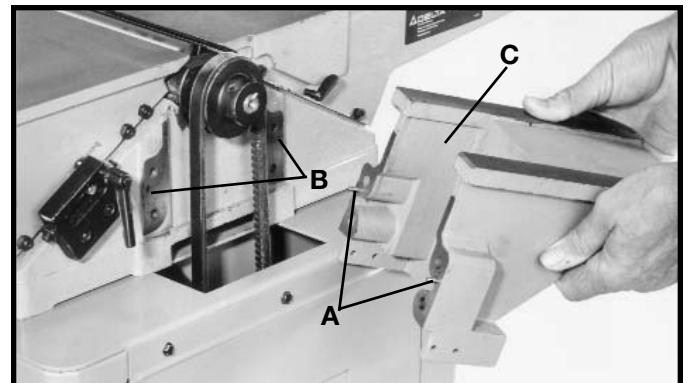
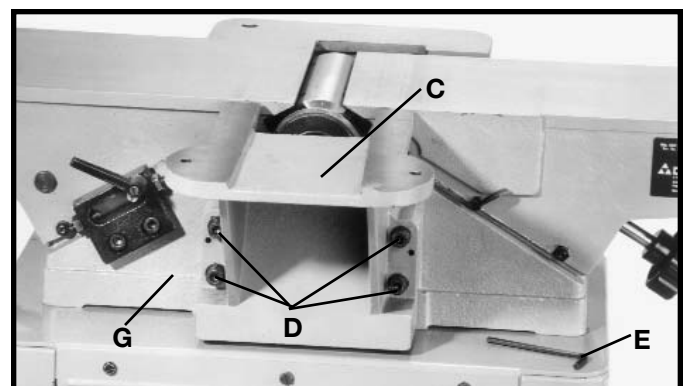

Fig. 13
Fig. 14
1. Position two alignment pins (A) Fig. 13, with two alignment holes (B) in jointer base.
2. Using the supplied 6mm hex wrench (E) Fig. 14, fasten bracket (C) onto jointer base (G). Place a M8.1 lockwasher then an M8 flat washer on an M8x1.25x55mm hex socket head screw. Insert the screw (D) Fig. 14, through the hole in bracket (C), and thread the screw into the jointer base (B) Fig. 13, and tighten securely. Repeat this process for the three remaining holes in the bracket and jointer.